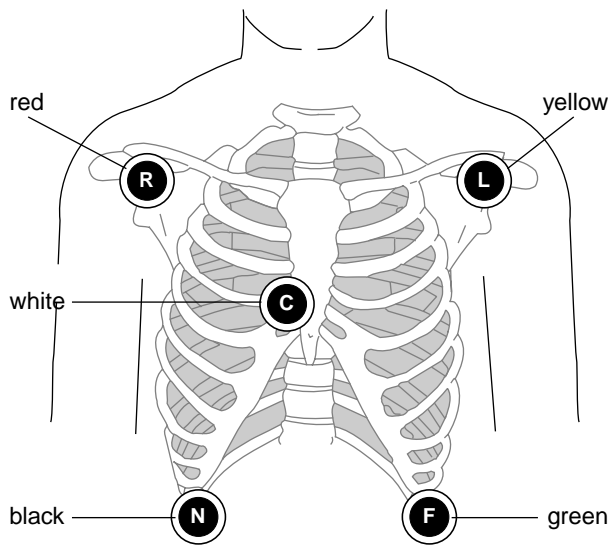

Figure 5-6. ECG electrode placement
- Apply the electrodes as shown in Figure 5-6.